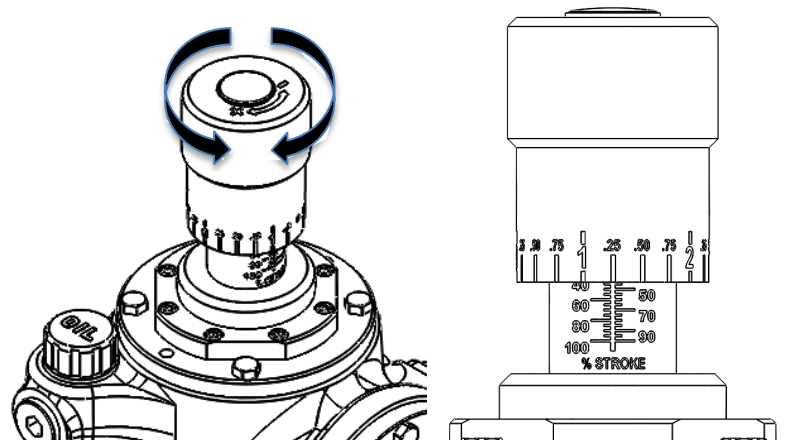

Figure 6
13. Turn the adjustment knob to increase or decrease the flow rate to the desired percentage, as indicated by the markings. See Figure 6.